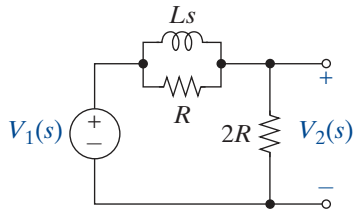

FIGURE P11-2
- 11-2 Find the driving point impedance seen by the voltage source in Figure P11-2 and the voltage transfer function $T_V(s) = V_2(s)/V_1(s)$.